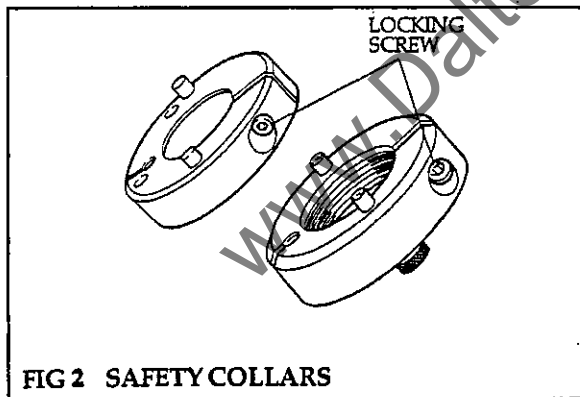

FIG 2 SAFETY COLLARS
- (1) After removal of the outboard bearing release locking screw on safety collar (fig 2) and remove from spindle.
- (2) De-pressurise the hydrogrip cutterblock by turning the pressure release screw (2), located in a recess on the barrel of the cutterblock one quarter turn to release, using a 3mm A/F hexagon key.
- (3) Slide the cutterblock from the spindle.
- (4) Always leave the pressure release screw (2) undone when the cutterblock is not in use to avoid distortion to the cutterblock due to the variation in room temperatures.
- (3) Fit safety collar (see fig 2) and tighten securing screw.
- (4) On plain bore cutterblocks. Tighten the block to the spindle with the spanner/s provided.
- (5) Turn the spindle slowly to ensure the cutterblock is free and replace cover.
- (6) Operate the spindle for a short period to ensure it rotates freely and without vibration.
## Safety Collars (fig 2)